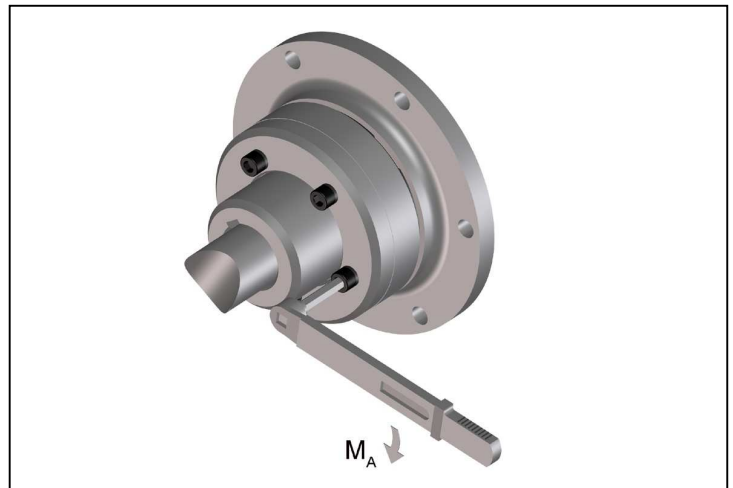

Fig. 11
- Tighten the claw ring screws to the tightening torque  $M_A$  specified in table 9 (Fig. 11).